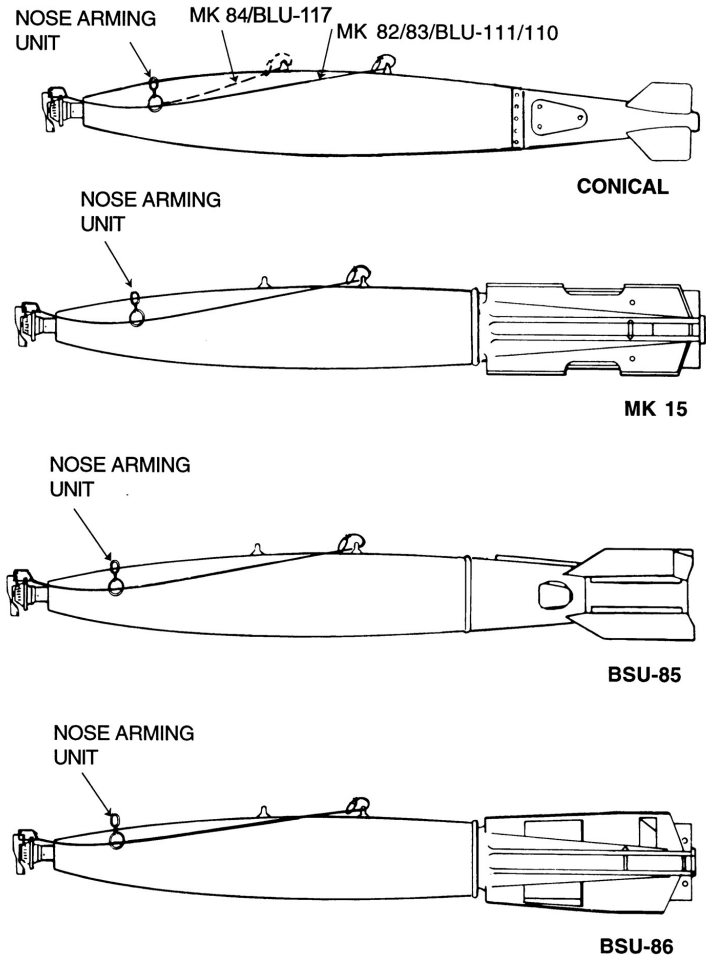

Figure 4. NONRETARD, Mechanical Nose Fuze
- 6. (As applicable) Install/connect arming wire(s) (Figs. 4 through 13) .....( )